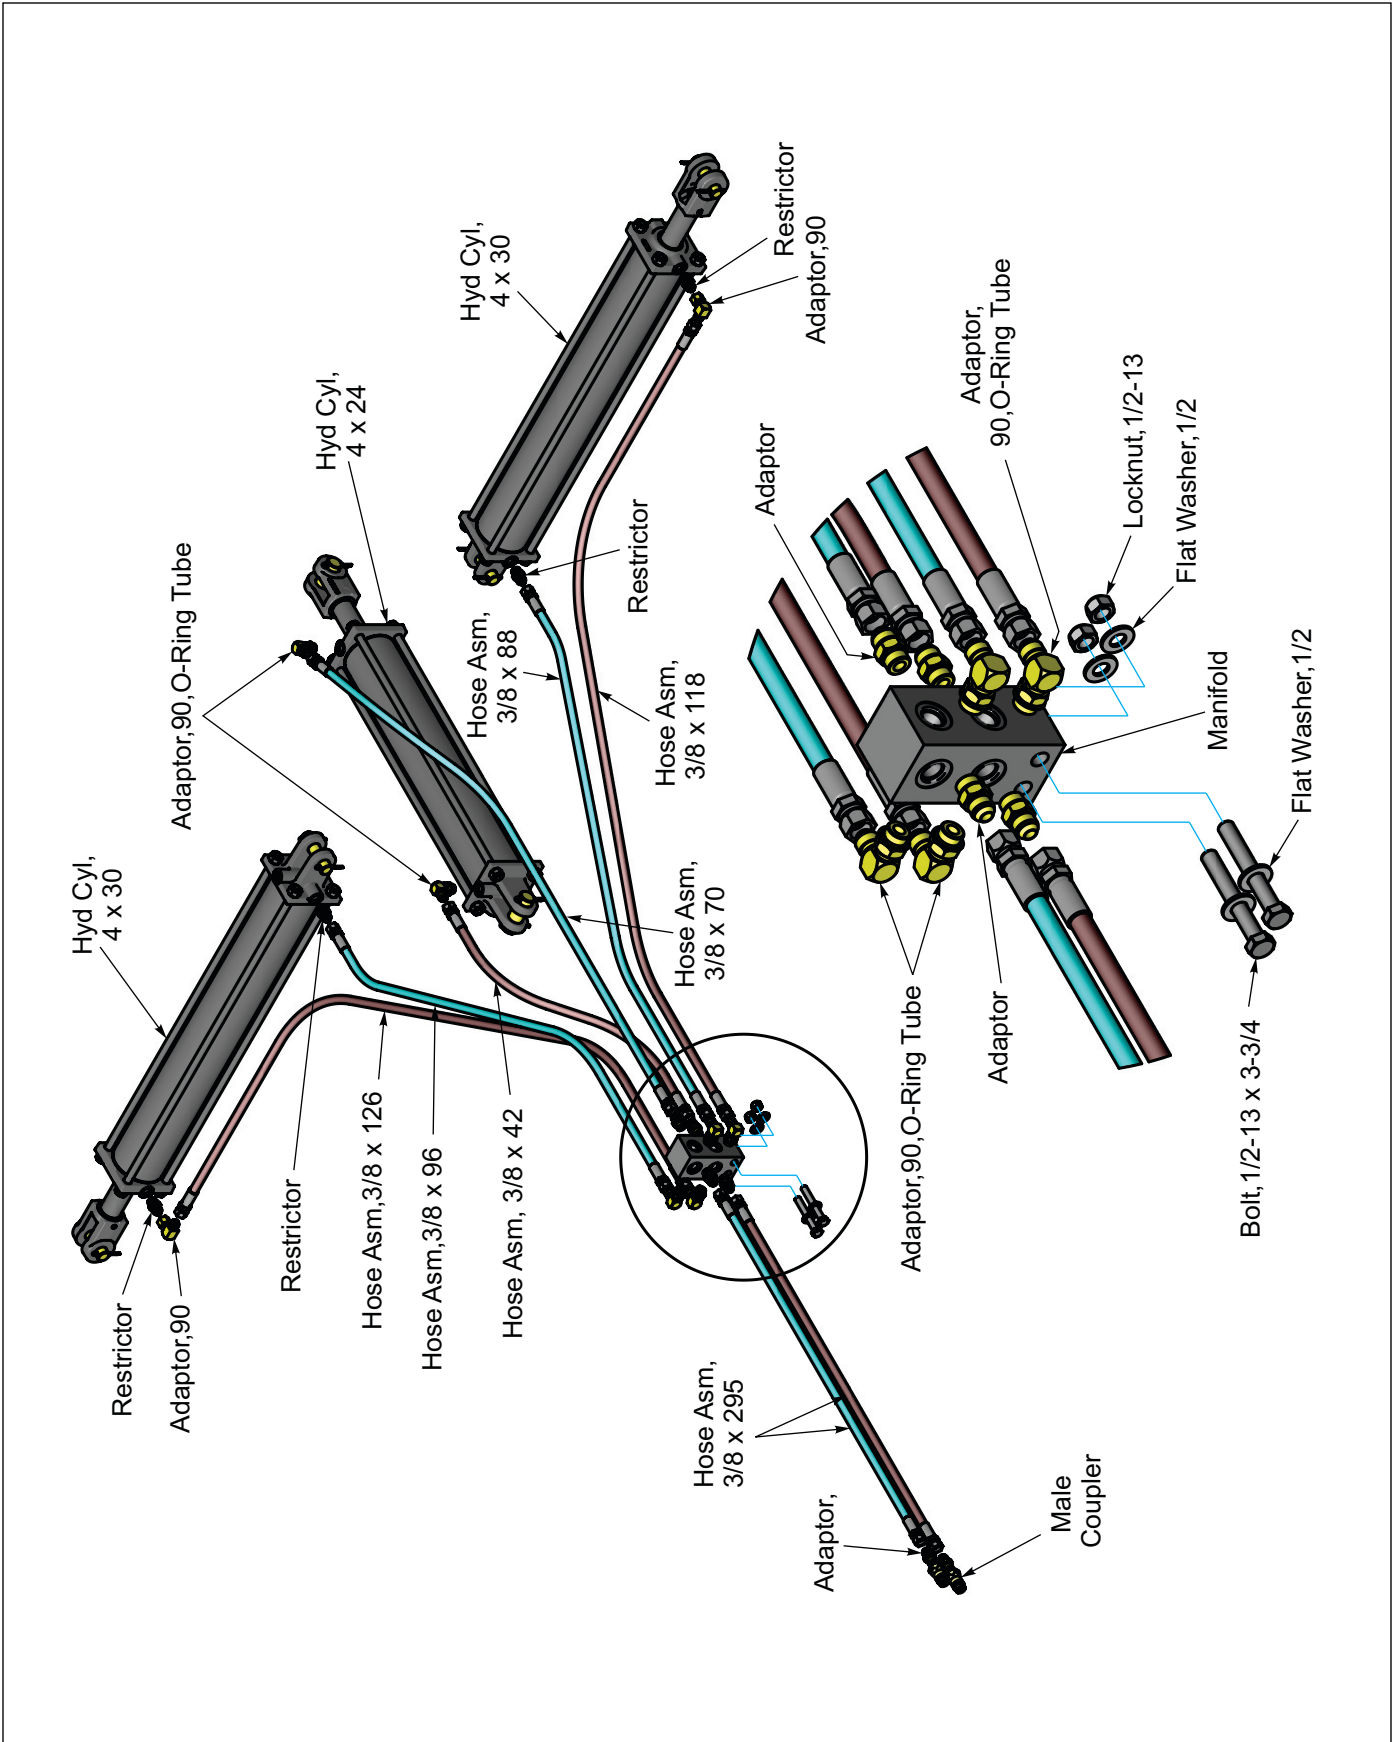

Figure 2-10: Hydraulic Schematic
1. Attach the 8 Port Manifold to the front of the manifold bracket located on top of the drawbar strap with 1/2-13 x 3-3/4 bolts, flat washers and locknuts. Install the fittings into the manifold with the elbow fittings pointing rearward. **See Figure 2-10.**
Use the Hydraulic Schematic as a reference. **See Figure 2-10.**